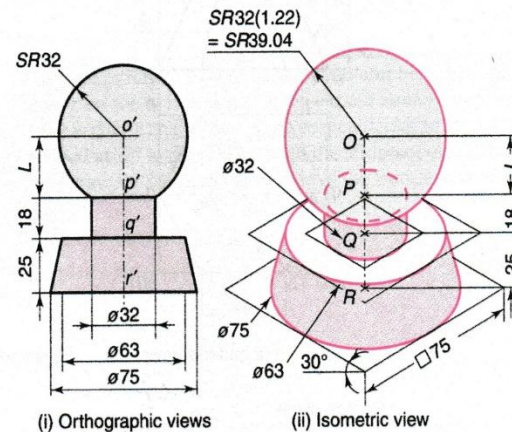

Fig. 13.72 Paper weight
Draw the isometric view of the paper weight shown in Fig. 13.72 (i).
**Solution** Refer Fig. 13.72